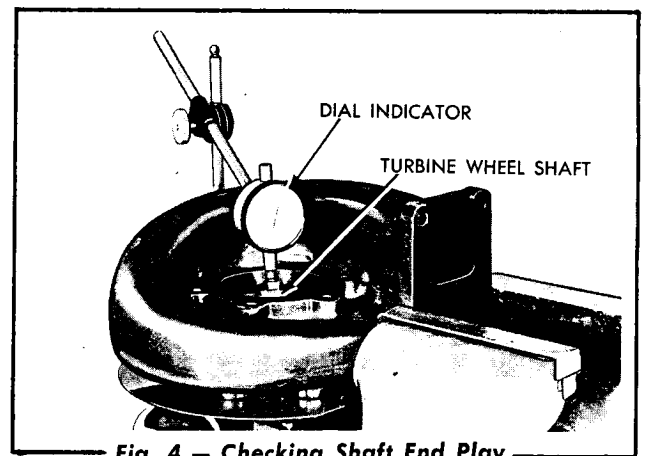

Fig. 4 — Checking Shaft End Play
- (1) Use either a clamp or magnetic base indicator holder.
- (2) Place indicator contact point on end of shaft (Fig. 4).
- (3) Move wheels to extreme up position, note indicator reading.
- (4) Move wheels in extreme down position, note indicator reading.
- (5) The difference between the readings is the end play.
- (6) This should be from $.004''$ to $.008''$.
- (7) Record the end play. This will be used to determine if thrust washers need to be replaced.
- (8) If end play exceeds $.008''$ it indicates that thrust collar faces or thrust washers are worn or distorted. If end play is less than $.004''$ it indicates a carbon build up behind turbine wheel and/or a dirt build up behind compressor wheel. Unit must be disassembled and cleaned and repaired.